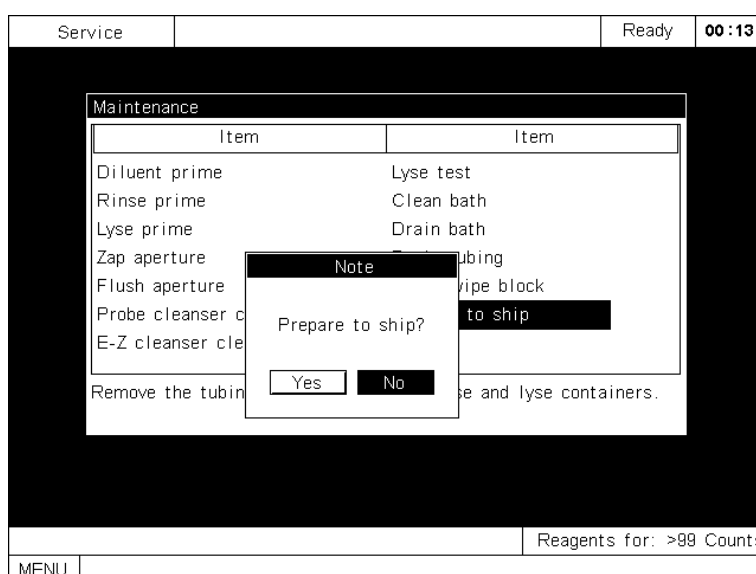

Figure 8-16 A dialog box of confirmation
- When the accumulated analyzed samples reach 4,000, a dialog box will pop up to remind the user to clean the wipe block, Figure 8-16 shows. You may move the cursor to Yes and press [ENTER] to start the cleaning, or to No and press [ENTER] to ignore the message.
- Press [ENTER] and a dialog box will pop up to ask you to confirm this operation, as Figure 8-16 shows